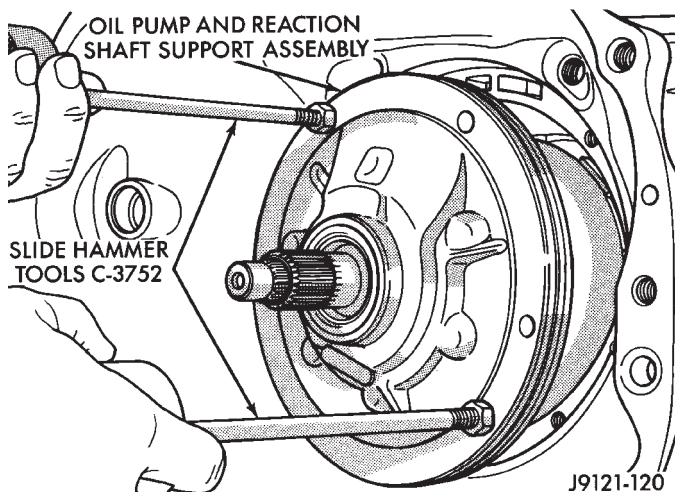

Fig. 91 Removing Oil Pump And Reaction Shaft Support Assembly
(13) Loosen front band adjusting screw locknut 4-5 turns. Then tighten band adjusting screw until band is tight around front clutch retainer. This prevents front/rear clutches from coming out with pump and possibly damaging clutch or pump components.
(14) Remove oil pump bolts.
(15) Thread bolts of Slide Hammer Tools C-3752 into threaded holes in pump body flange (Fig. 91).
(16) Bump slide hammer weights outward to remove pump and reaction shaft support assembly from case (Fig. 91).